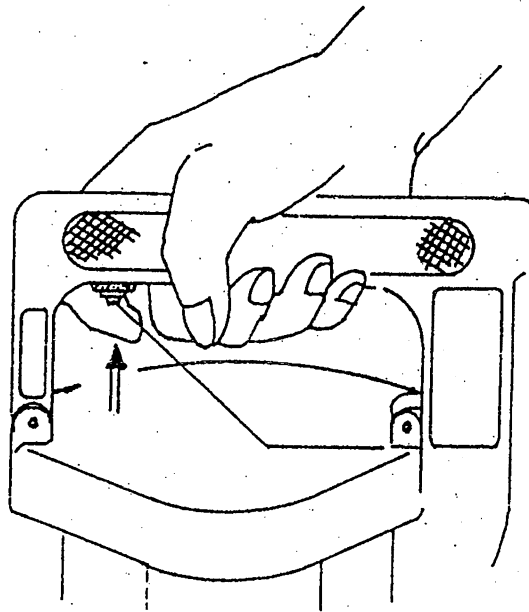

Fig.07
A) Machine Operation (See also Fig. 07)